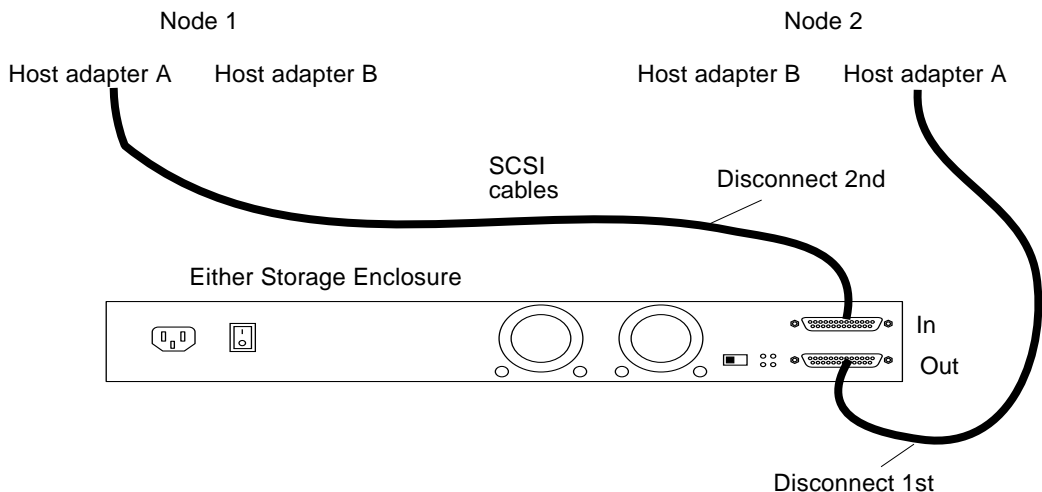

FIGURE D-7 Disconnecting the SCSI cables
- 3. Disconnect the SCSI cables from the Netra D130/StorEdge S1 enclosures, disconnecting the cable on the SCSI OUT connector first, then the cable on the SCSI IN connector second (see FIGURE D-7).**
- 6. Connect the SCSI cables to the new Netra D130/StorEdge S1 enclosures, reversing the order in which you disconnected them (connect the SCSI IN connector first, then the SCSI OUT connector second). See FIGURE D-7.**